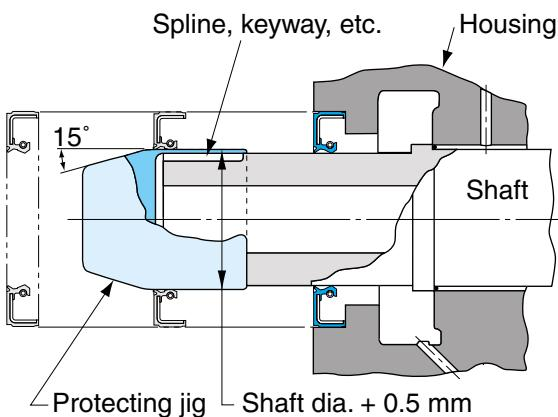

Fig. 1.7.7 Seal protecting jig for spline, keyway, holes on shaft
- 7) In case of shaft has spline, keyway, or holes, use seal protecting jig to prevent lip damage as illustrated below (Fig. 1.7.7).